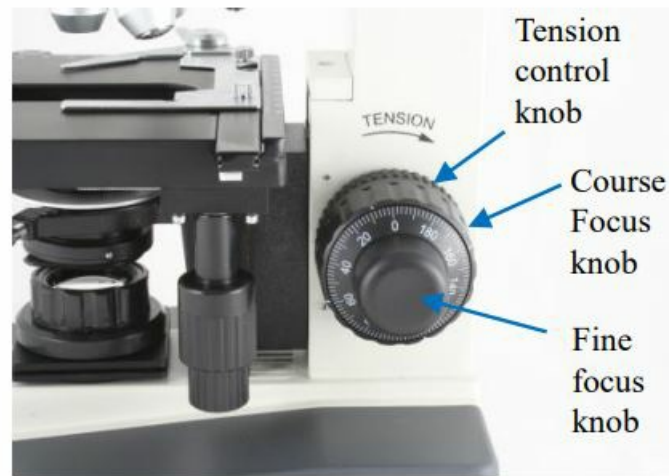

Fig.3
3. Turn the fine-focusing-knob to make the specimen clearer. (See fig.3)